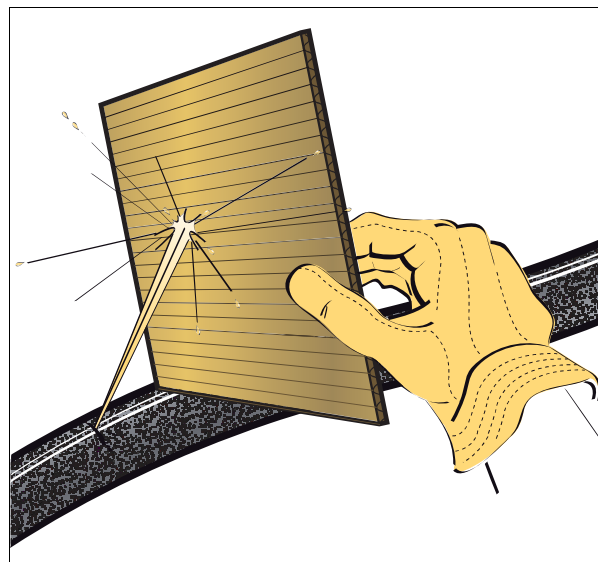

Fig. 3.
**Leaks of pressurised fluid may not be visible. Use a piece of cardboard or wood to detect leaks. DO NOT USE YOUR BARE HANDS. Wear safety goggles for eye protection. If any fluid penetrates the skin, seek medical advice within a few hours from a doctor familiar with this type of injury fig. 3.**